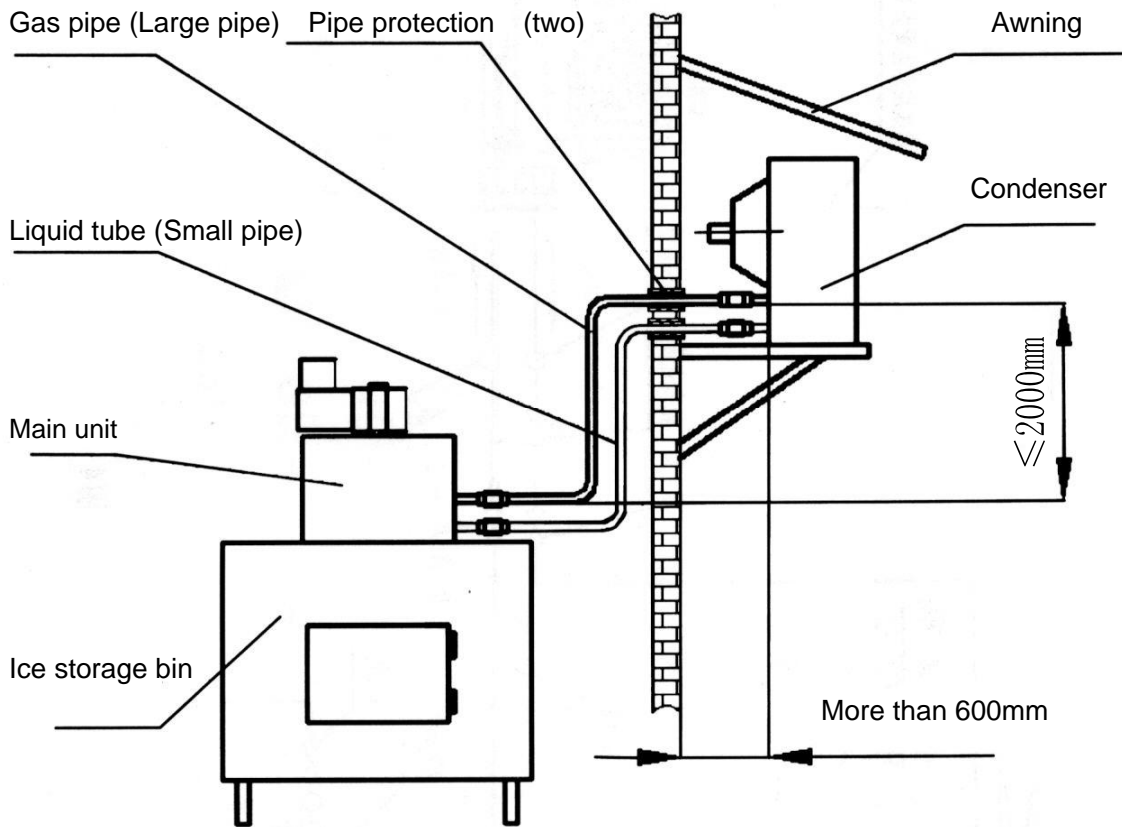

Figure 3
- See figure 3 for installation of split unit.(See figure 3)